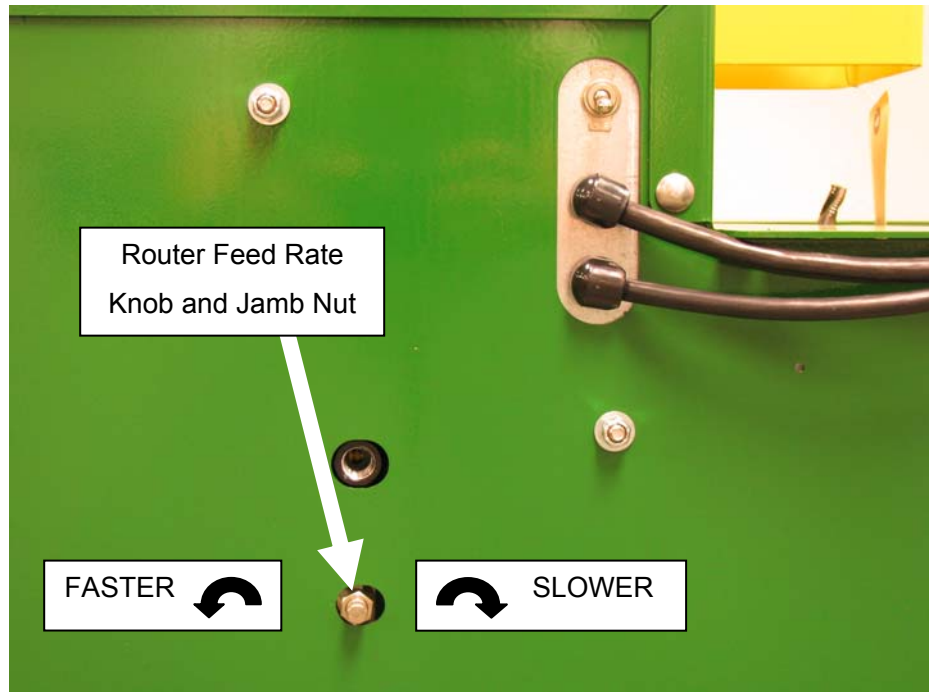

Fig 14
1. Locate the Feed Rate knob on the left of the case and fully loosen the Jamb Nut. See Fig 14.